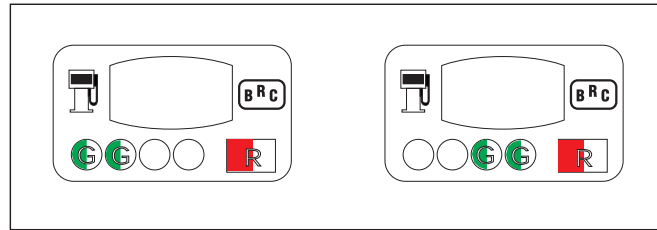

Fig. 25
- **If the operation has been carried out correctly, the TWO-COLOURED LED turns red blinking and indicates the end of the TPS acquisition phase** (fig. 25).